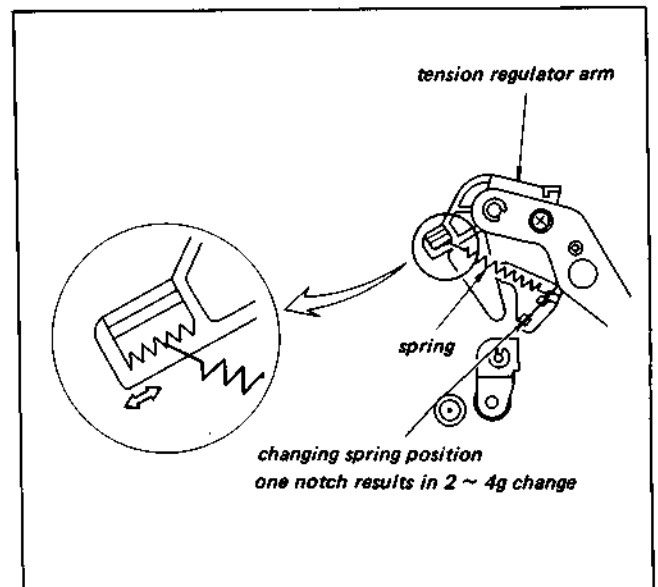

Fig. 3-50. FWD back tension adjustment (2)
- 5) As shown in Fig. 3-50, move the position of the spring on the tension regulator arm to the position shown in the enlarged illustration to adjust.